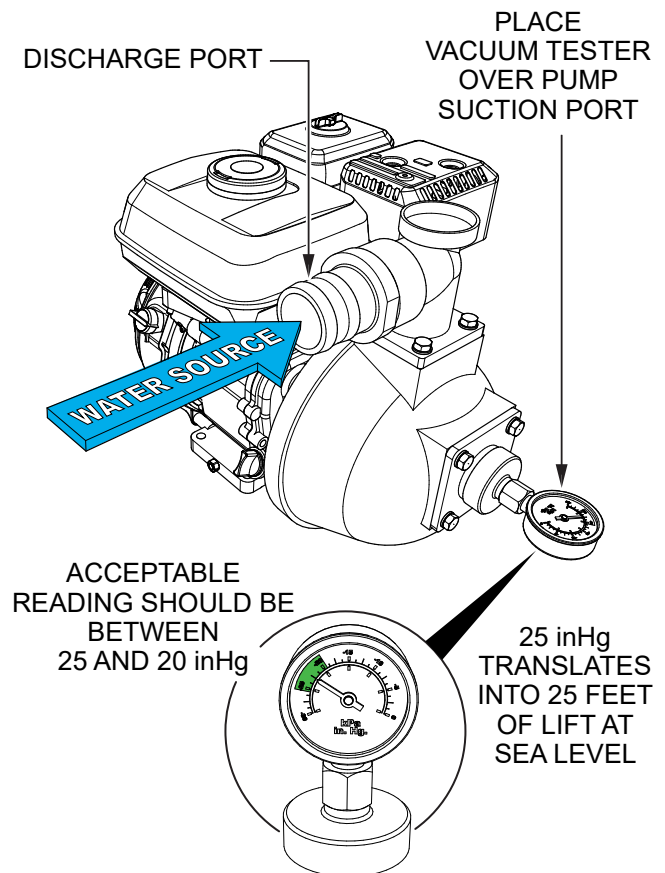

Figure 28. Pump Vacuum Test
3. As shown in Figure 28, place a water hose inside the discharge opening of the pump, and turn on the water. This flow of water into the discharge opening will prevent the pump from running dry.